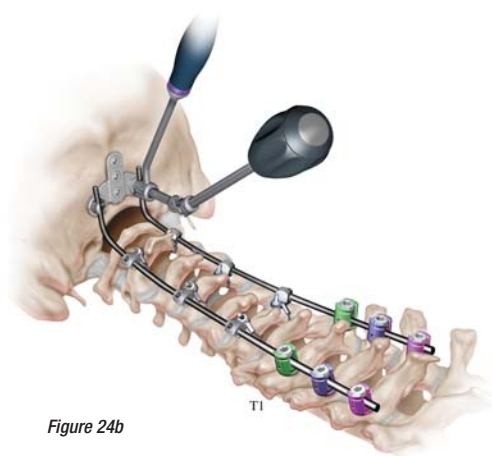

Figure 24b
- Perform final tightening of the Inner Set Screws on the OC Plate, by rotating the Torque Driver **clockwise** while providing counter torque on the rod with the Counter Torque Device. The Inner Set Screw is completely tightened when the Torque Driver audibly clicks (Figure 24b).